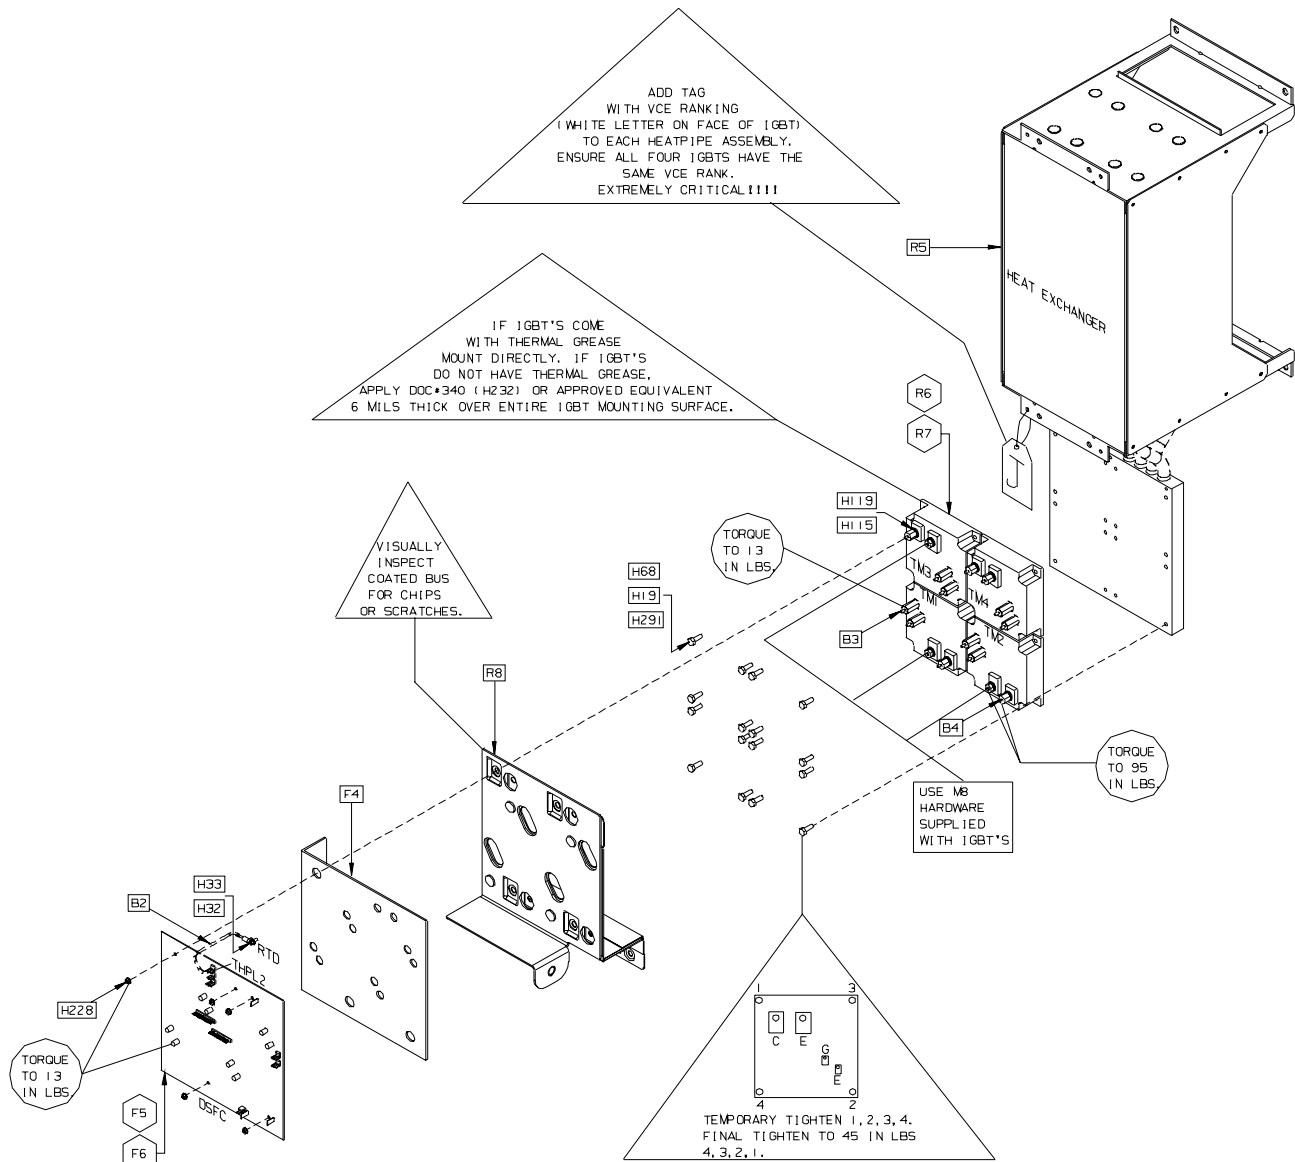

Figure 7-5. 1000 Frame Heat Exchanger Assembly
4. Slide the DSFC boards off the IGBT stud connections (refer to Figure 7-5).
10. Remove the IGBT buses (refer to Figure 7-5).
6. Install the eight M4 standoffs and torque to 13 in-lbs (as shown on Figure 7-5).